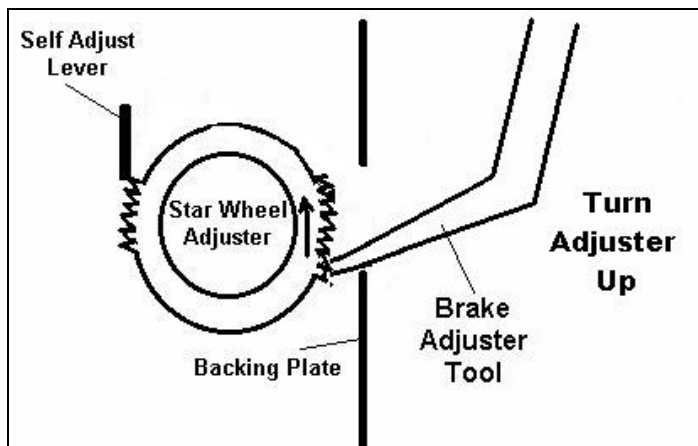

Fig. 21 Adjusting the shoes out
- Using a screwdriver or a brake adjuster tool, insert it in the hole and pull up on the star-wheel, you should hear it click as it turns. (*fig .21*)